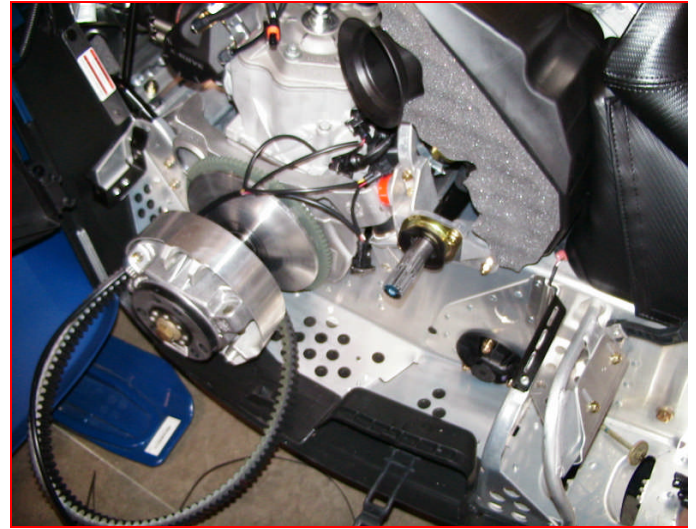

Figure 2
2. **Remove the secondary clutch. (Please see figure 2).**